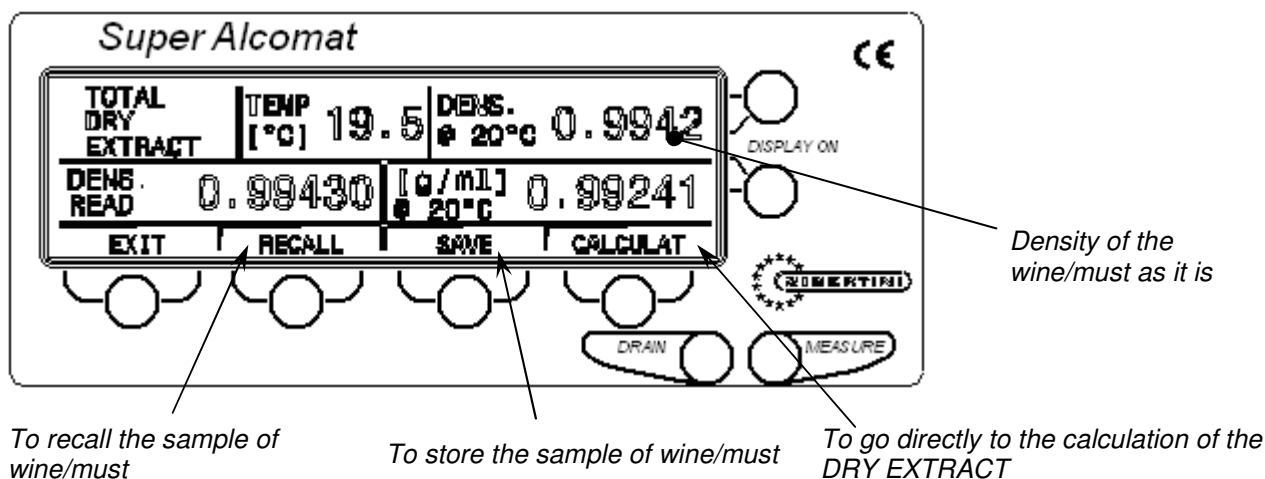

Fig. 12
- d- the display shows temperature, specific gravity read, specific gravity correct at 20°C and density at 20°C of the wine/must sample under consideration (Figure 12);
- press [SAVE] (Figure 12);